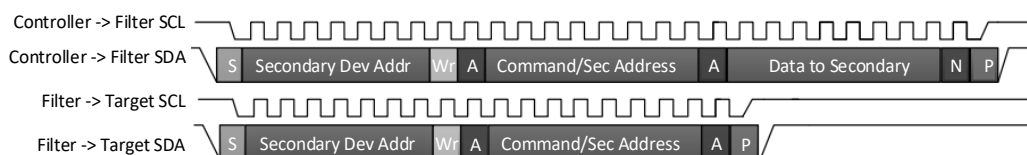

Figure 8.4. I²C Filter Blocked Write Transaction
Figure 8.4. below shows an example of invalid write transaction filtered out through the component, in this case the I²C filter asserts SMBus Stop condition (P) leading to an abort on the target device, while also responding with a NACK to the controller device signaling an error in the write transaction. Stop target device occurs at command phase while NACK to controller device occurs at first byte data phase. The write transaction is blocked due to the command transferred is not in the allowlist.